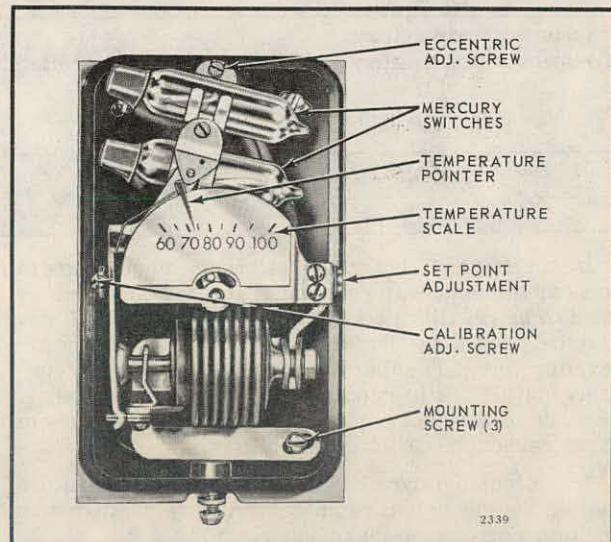

FIG. 11 INTERNAL VIEW OF T42H.
The differential settings for the T42H, J, K, and L are adjustable from 1 to 5 degrees F. If the factory setting of 1 F is not satisfactory, the differential may be increased by means of the eccentric adjustment screw (see Fig. 11).
3. Turn the calibration adjustment screw (see Fig. 11) one quarter turn for each degree of control error—clockwise ↗ if the thermostat is maintaining too low a temperature; counterclockwise ↘ if too high a temperature is maintained.